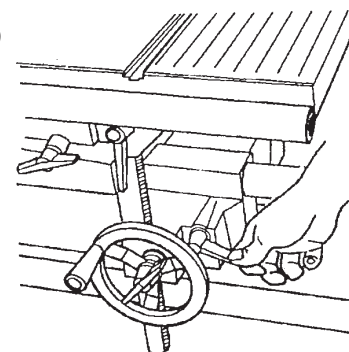

Figure C-30
23. Tighten the carriage lock, as shown in Figure C-30.